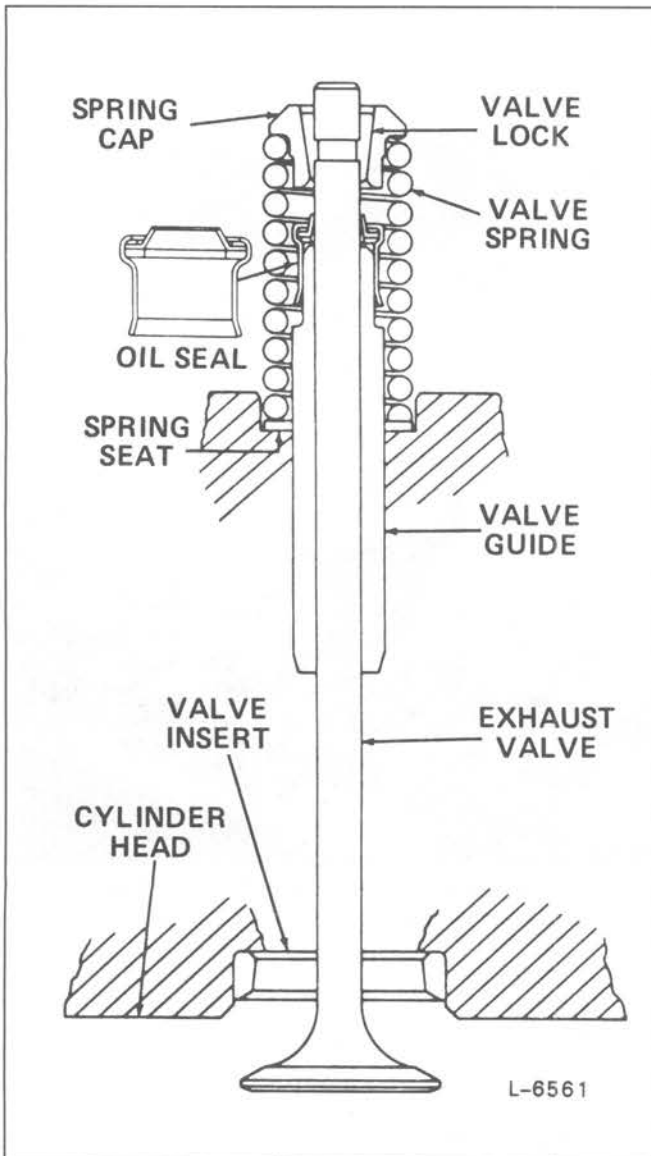

Fig. 16 - Exhaust Valve, Spring and Seal Configuration
1. Clean the valve guides. (Fig. 16).